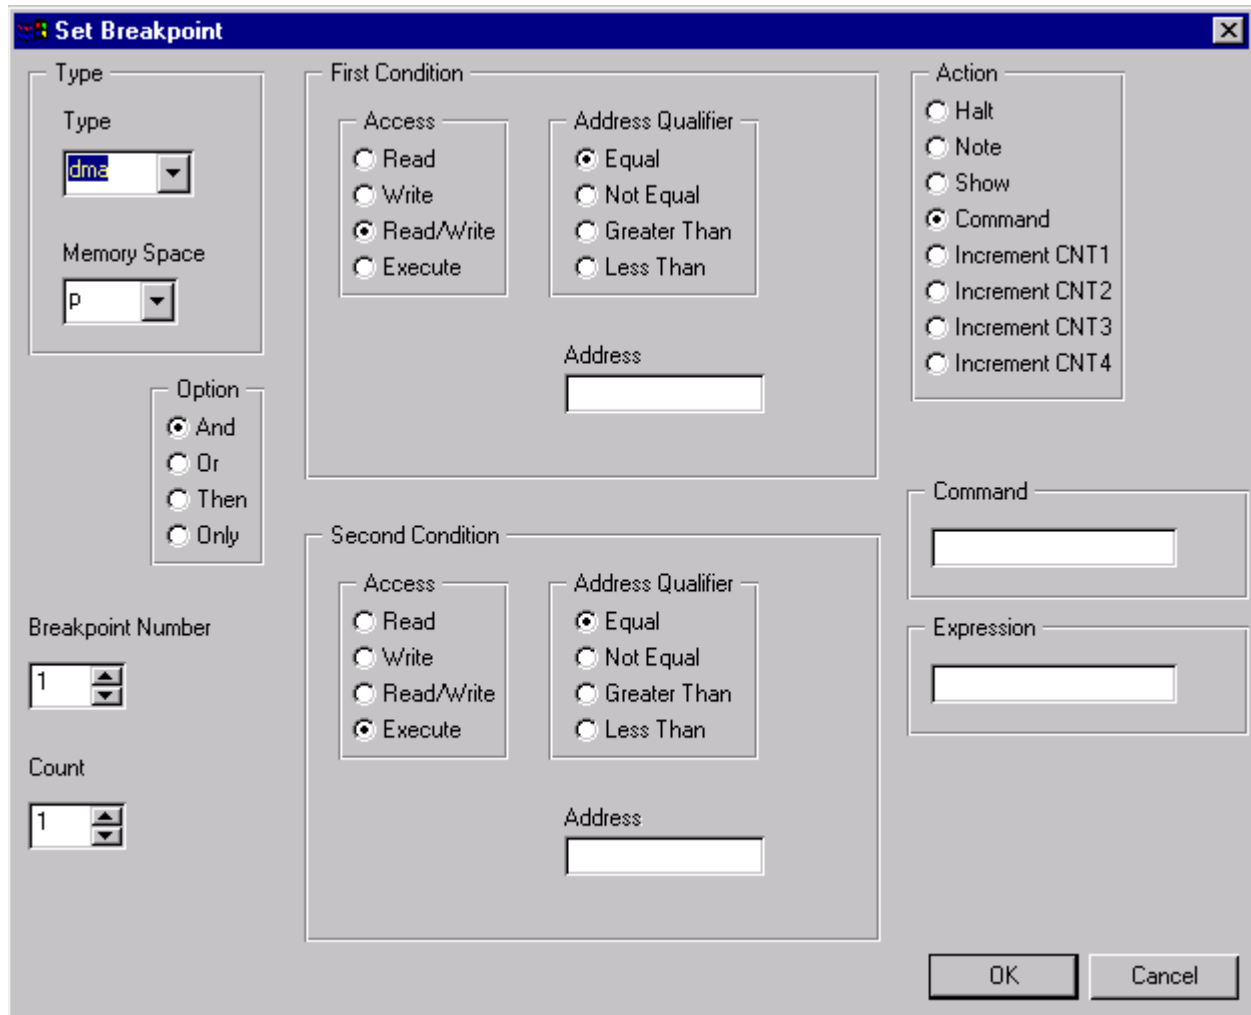

Figure 3-1. Setting a Software Breakpoint
1. From the **Execute** menu, choose **Breakpoints**, then select **Set Software**. The **Set Breakpoints** dialog box shown in Figure 3-1 appears.